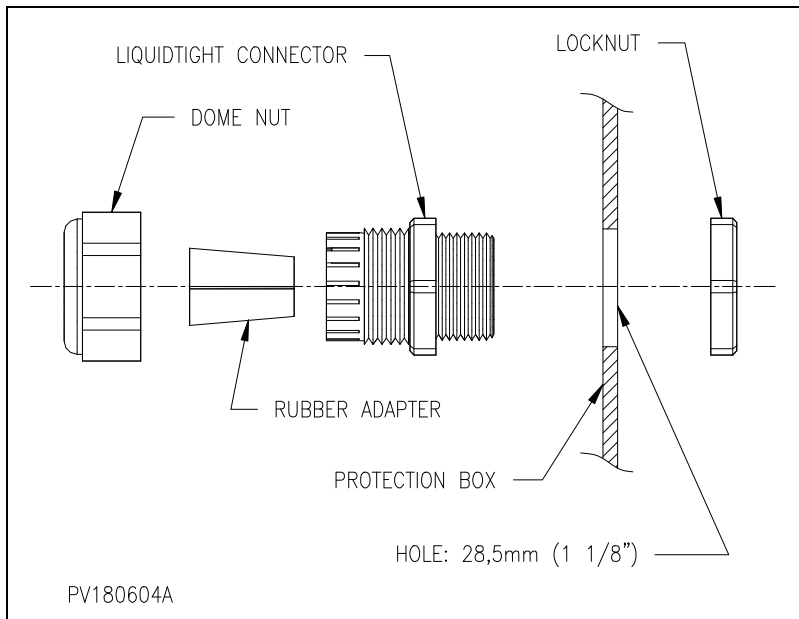

Figure 16 : Mounting the liquidtight strain relief connectors
5. Drill holes for the appropriate liquidtight strain relief connectors. Refer to *Figure 16 : "Mounting the liquidtight strain relief connectors"*.